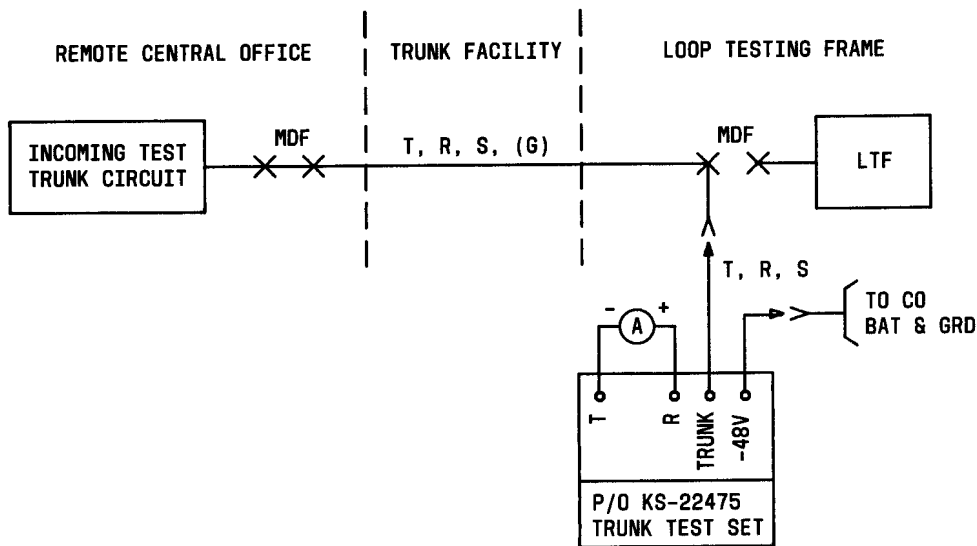

Fig. 6—Loop Current—Connections
B. Loop Current (all test trunks) (Fig. 6).